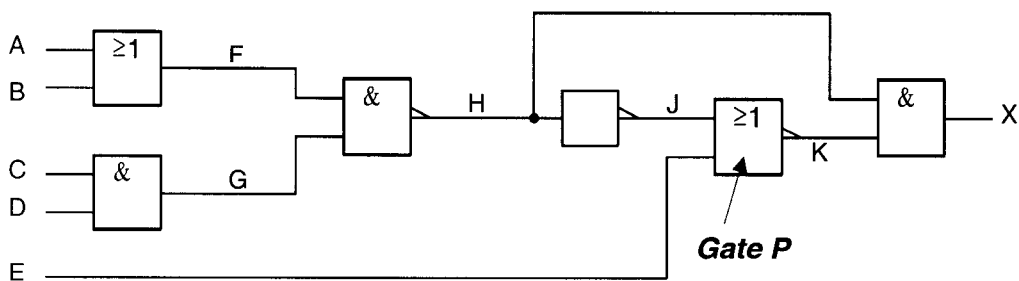

Figure 6.2
- c) By applying the principle of path sensitisation to the circuit shown in Figure 6.2, generate the test vectors for detecting: i) a *stuck-at-0* fault at node *F*, ii) a *stuck-at-1* fault at node *G*.